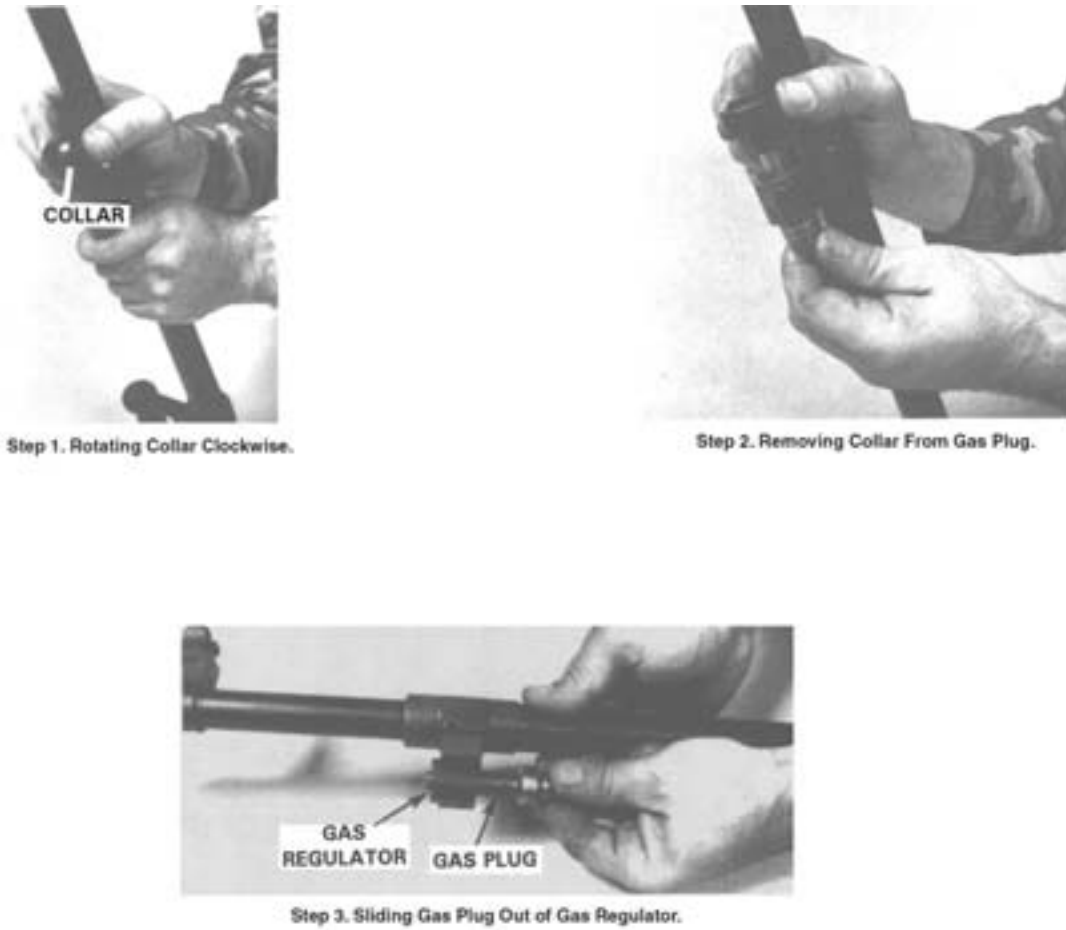

Figure 3-17. Disassembly of the Gas System.
the collar from the gas plug. See figure 3-17, steps 1 and 2.
- Slide the gas plug to the rear out of the gas regulator (see figure 3-17, step 3).